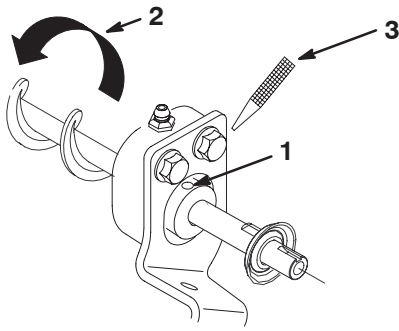

Figure 13
27. Rotate the bearing locking collar in the direction of the rotation of the brush, by hand until the collar is tight on the roller brush shaft (Fig. 13).
28. Tighten the collar further by placing a punch in the blind hole of the collar and striking it sharply in the direction of the rotation of the brush (Fig. 13). Retighten the collar set screw to secure the adjustment (1/8" Allen wrench).